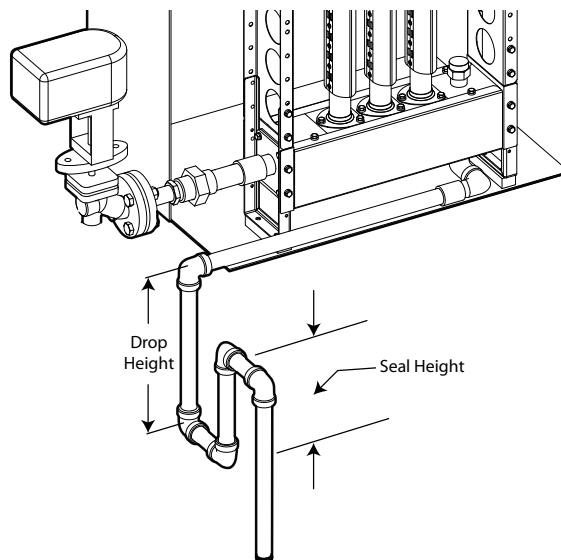

Fig. 7.e
A threaded connection (3/4" male NPT for North American markets and 3/4" male Gas for other markets) is provided for the condensate drains on the headers. If P-traps are used on the drains, as shown in Fig.7.e, the seal height should be sufficient such that the water column creates a pressure at least 500 Pa (50 mm or 2" H2O) greater than the static pressure in the header (PS). NOTE: A minimum seal height of 150 mm (6") is recommended for most installations where the condensate trap drains into a sump inside the duct.
**Note:** the fittings and pipe for the condensate drain shown in Fig.7.c are not included with the ultimateSAM distributor.